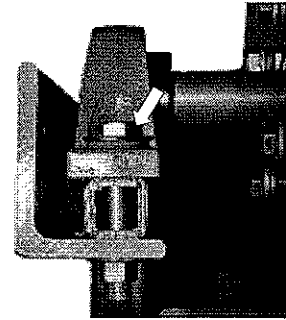

figure 23
4. Remove 2, 1/2-13 x 3 1/2 in. cap screws from the bearing mounting (single motor only) and 2 carriage bolts from the motor housing(s) (figures 23 and 24). This detaches the brush from the brush frame.